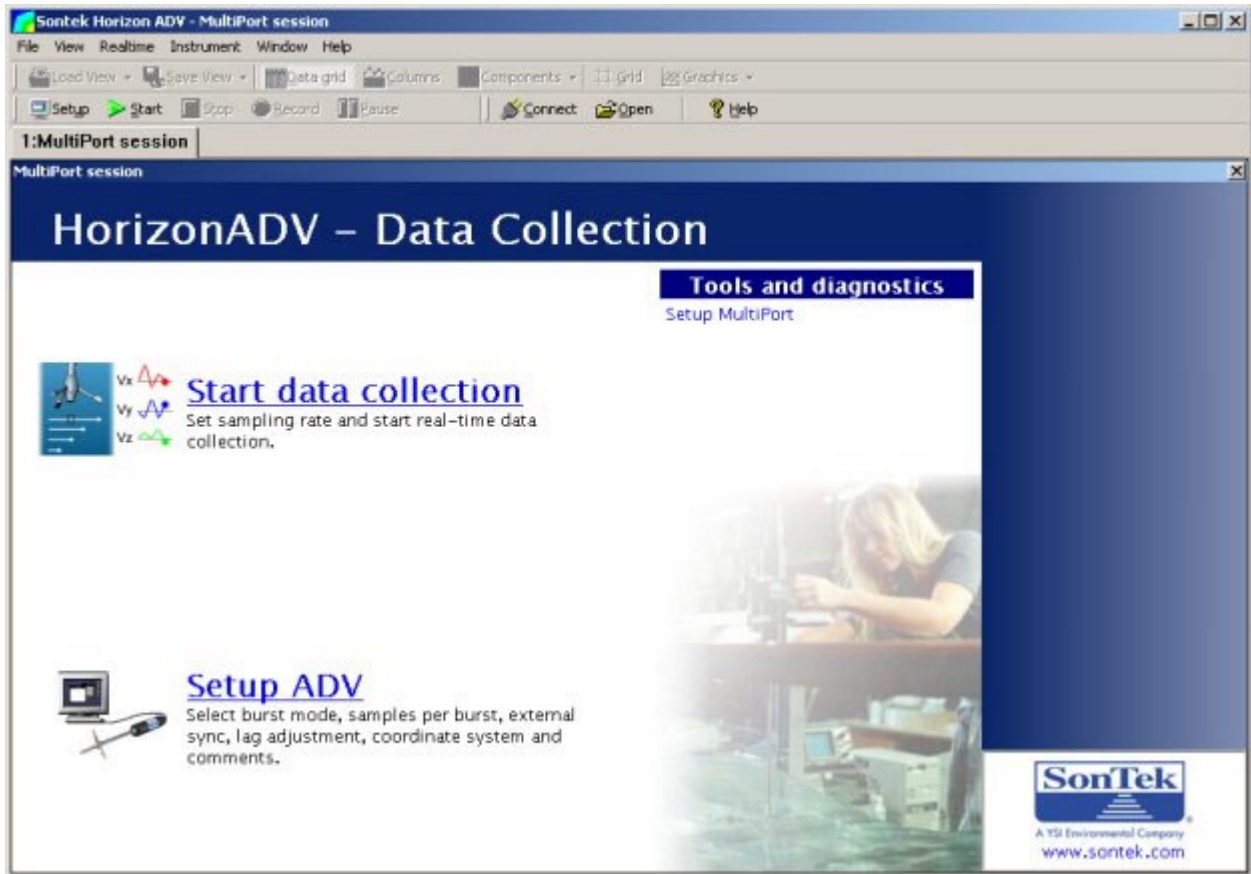
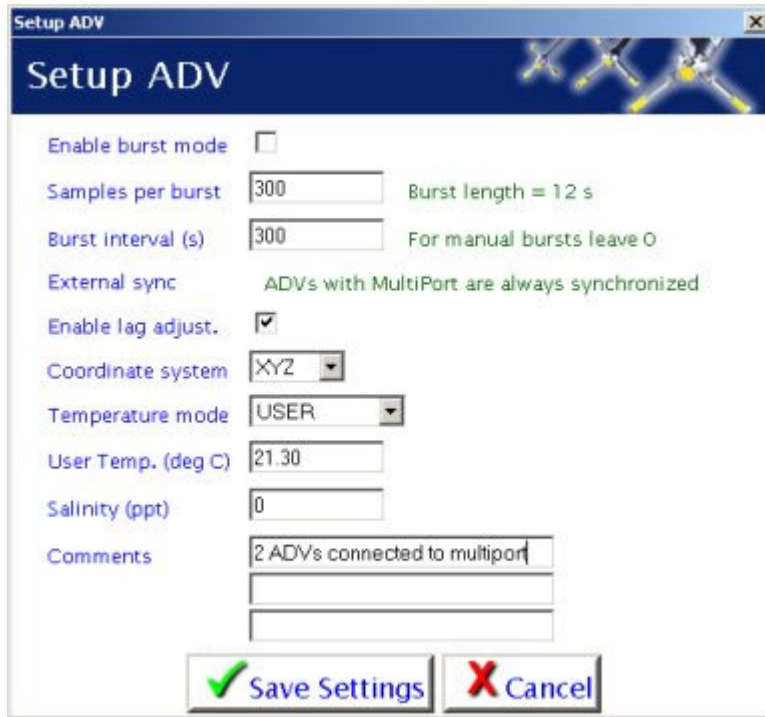
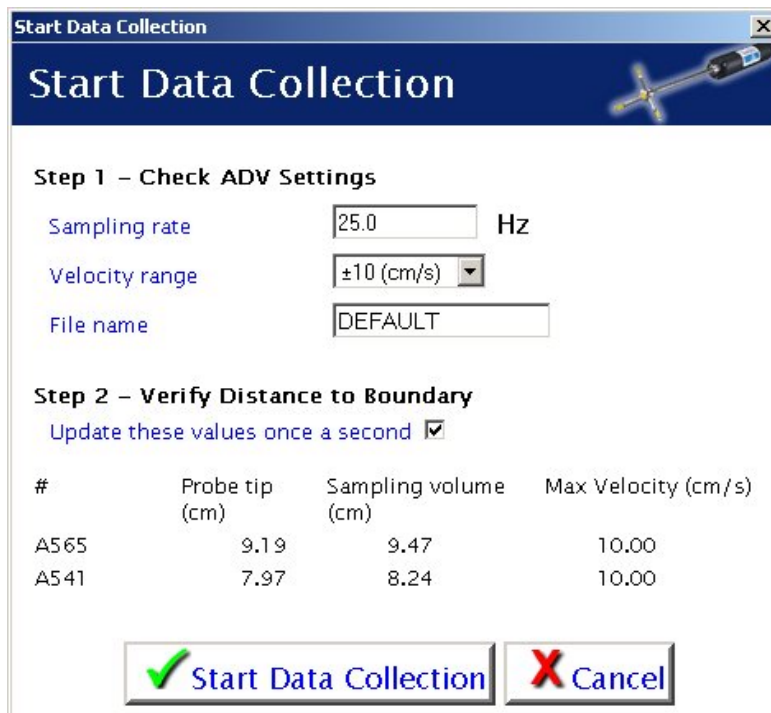
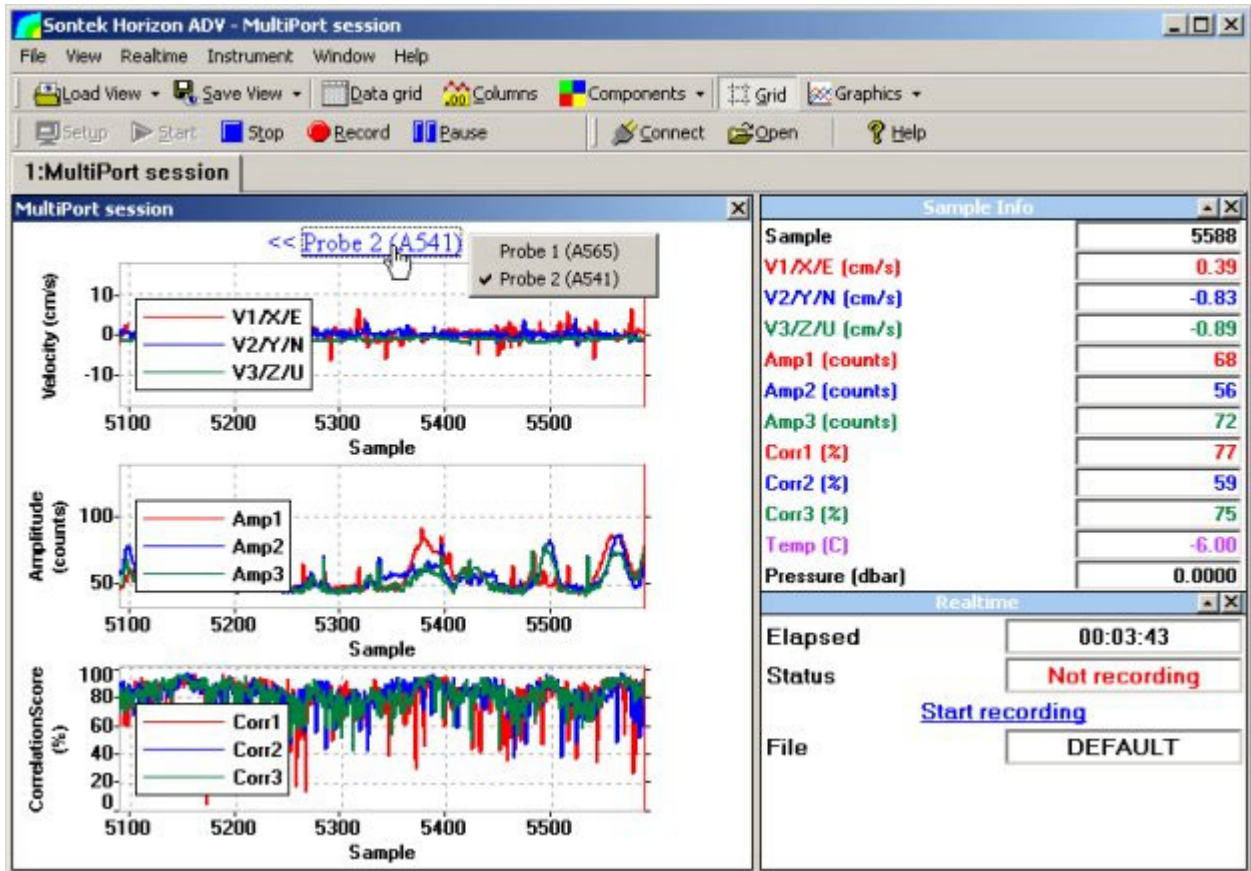

Figure 51. HorizonADV MultiPort Session Menu
Figure 53. HorizonADV Setup ADV Menu
Figure 54. HorizonADV Start Data Collection Menu
Figure 55. HorizonADV MultiPort Session Data Display for Selected Probe
- Click **Connect**. If the LAN interface connection is successful, the **MultiPort session** menu will be displayed (Figure 51). If not successful, an error message is displayed.
- In the **MultiPort session** menu (Figure 51), click **Setup ADV** to set up your data acquisition parameters (Figure 53). See your system manual and applicable sections in the *HorizonADV* manual for ADV setup details. Click **Save Settings** when your entries are complete.
- In the **MultiPort session** menu (Figure 51), click **Start Data Collection**. Check your ADV setting and verify each instrument's distance to boundary (Figure 54). If the entries are acceptable, click **Start Data Collection** to start data collection for the connected ADVs (Figure 55).
HorizonADV can only show data for one probe at a time. In the real-time MultiPort session display at the top of the screen (Figure 55), there is a << Probe n >> hyperlink (where n is the selected probe). Clicking an arrow will change the data screen to show the next/previous probe that is connected. Clicking **Probe n** displays a selection menu that lists all the probes.